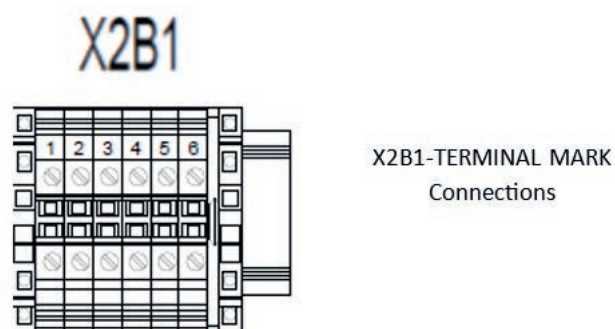

Figure 114. B-Cab XXL DC Power & Communication Harness Termination Point
- h. Table 22 with the Terminal Block reference as shown in Figure 114.